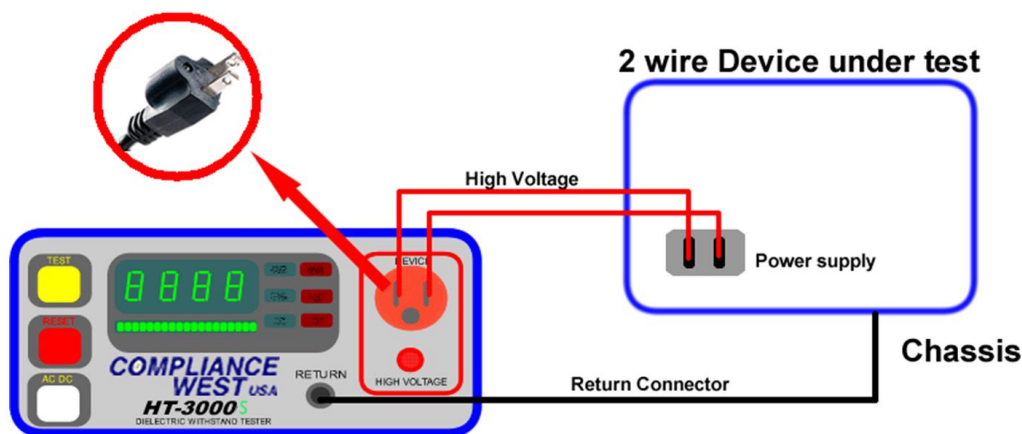

Figure 8. Testing a Two Wire Power Cord Device
4. Plug the power supply cord of the device being tested into the **Device** receptacle on the front panel of the HT-S unit. See Figure8 for detailed connections.